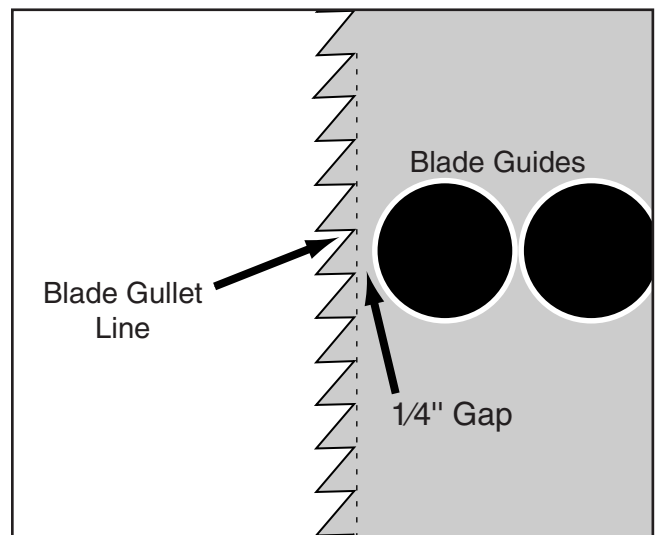

Figure 13. Blade guides not more than $\frac{1}{4}$ " behind blade gullet.
5. Loosen the hex bolt that secures the blade guide shaft to the guide post collar. Adjust the blade guide assembly either forward or backward, so the front blade guide is positioned not more than $\frac{1}{4}$ " behind the bottom of the blade gullet as illustrated in **Figure 13**.